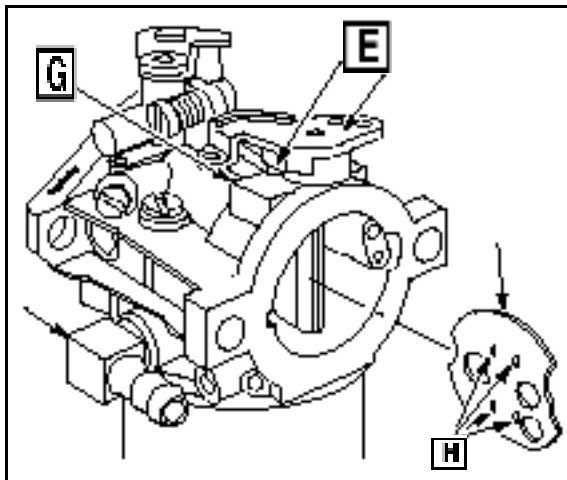

Fig. 129
2. Insert the spring inside the large foam seal. Slide the seal and spring on to the choke shaft ([G] Fig. 129), with the straight end of the spring up toward the choke shaft lever.
3. Insert the choke shaft into the carburetor body until the hook of the spring hooks on to the spring anchor (E).
5. Insert the choke plate ([H] Fig. 129) into the choke shaft, with the dimples toward the fuel inlet side of the carburetor. The dimples hold and align the choke plate to the shaft.